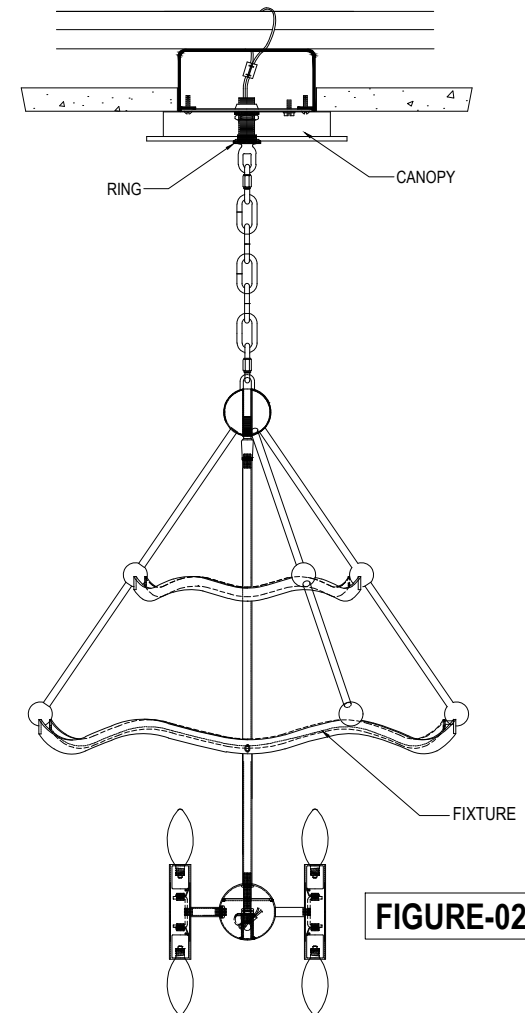

FIGURE-02
6. Slide the canopy and screw collar ring up the chain and secure the canopy to the ceiling. (See Figure-02)